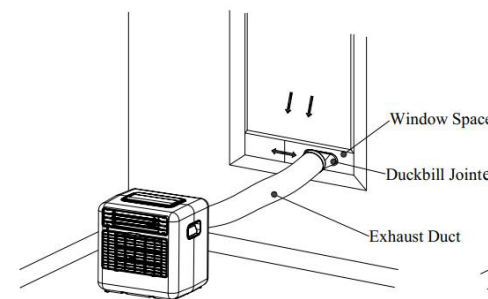

Figure 10
1.5.2 Extend the exhaust duct and clamp the flat end of the duckbill joint into the elliptical hole of the window spacer component. (As shown in Figures 10 and 11)